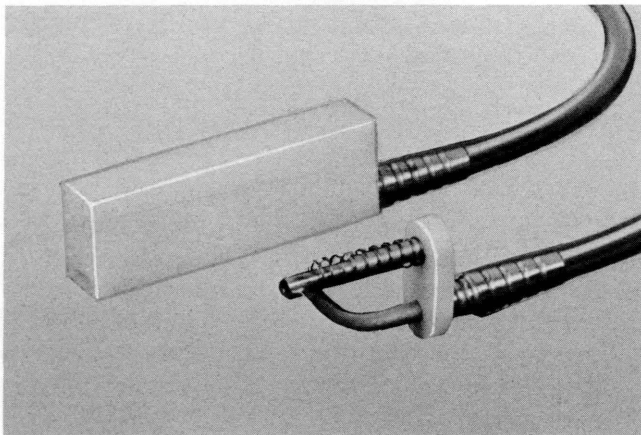

Figure 2-34. Chip Collector Assembly
4. Assemble the chip collector (Figure 2-34) and the vacuum pump (Figure 2-9). Turn the vacuum pump on.
2. Assemble the chip collector (Figure 2-34) and the vacuum pump (Figure 2-9). Turn the vacuum pump on.